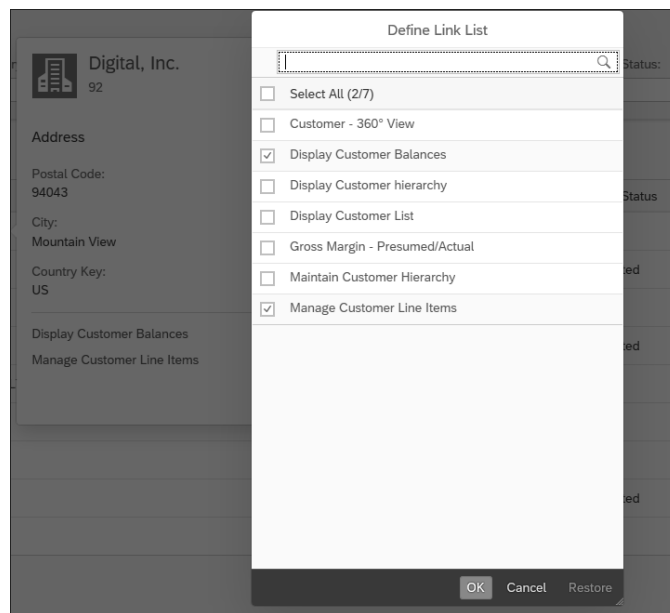

Figure 4.62 Manage Sales Inquiries: More Links
11. From this option, click on the **More Links** button in the lower-right corner to add more detailed links for drilldown capabilities. Figure 4.62 shows the available drill-down options for the customer number.